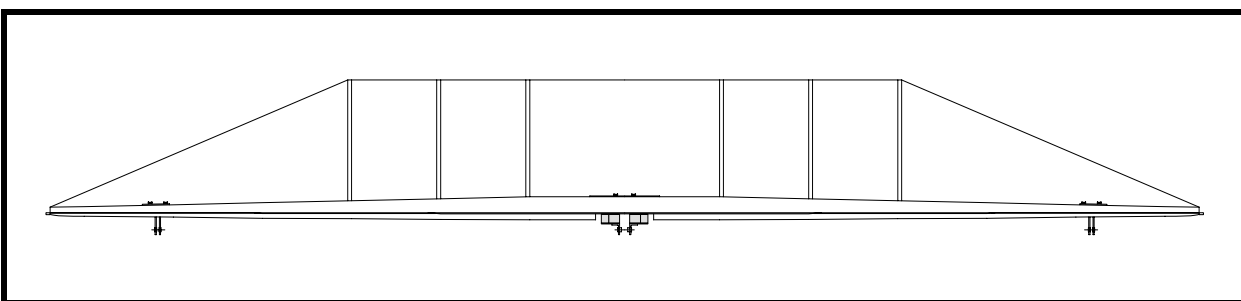

Figure 5
Note: In the following steps, you will be looping a string over these ribs to align the inboard ribs as shown in Figure 5 and 7. Since the tension of the string will pull the ribs over, we suggest you make a wood brace to hold the rib at the proper vertical position.
- ☐ Fit the intermediate ribs for Sta. 1 and 2 (P/N 404-6 and 404-9). See Figure 5.